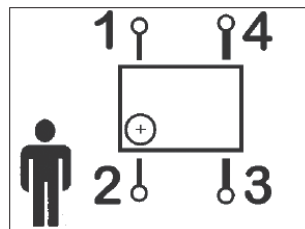
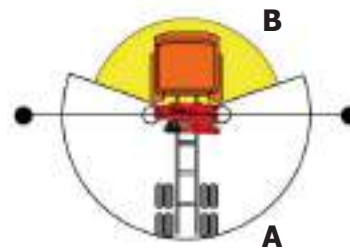

Fig. 4.1
Fig. 4.2
The system detects the left and right working areas of the vehicle body (1-4 and 2-3 - fig. 4.1) and manages the lifting moment limiting device for two working zones: "above body" (A) and "above cab" (B) - fig. 4.2 (See paragraph "Lifting moment limiting device for two working zones").